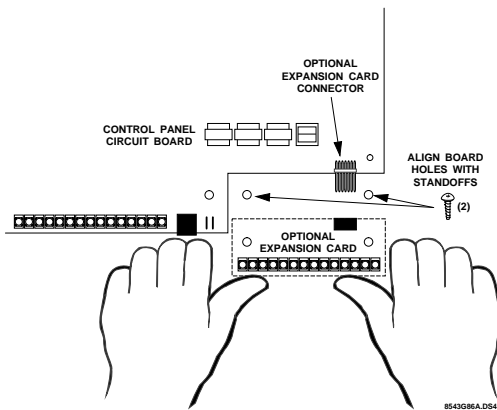

Figure 2. Installing the Card
2. Align the card holes with the enclosure standoffs and panel connector pins as shown in Figure 2.